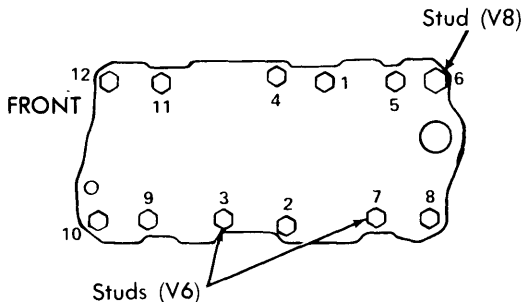

Fig. 1 V6 Intake Manifold Tightening Sequence (V8 Bolt Location & Sequence Similar)
2) Some engines do not have front or rear manifold seals. Use suitable sealer to lay a bead along front and rear ridge of block and about 1/2" up each head to hold manifold side gaskets. Tighten in sequence. See Fig. 1. To complete installation, reverse removal procedures.